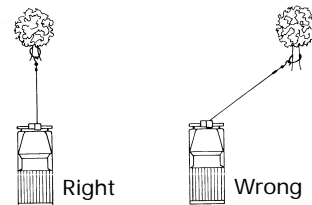

Figure 5
- AVOID CONTINUOUS PULLS FROM EXTREME ANGLES as this will cause the wire rope to pile up at one end of the drum (Figure 5). This can jam the wire rope in the winch, causing damage to the wire rope or winch itself.